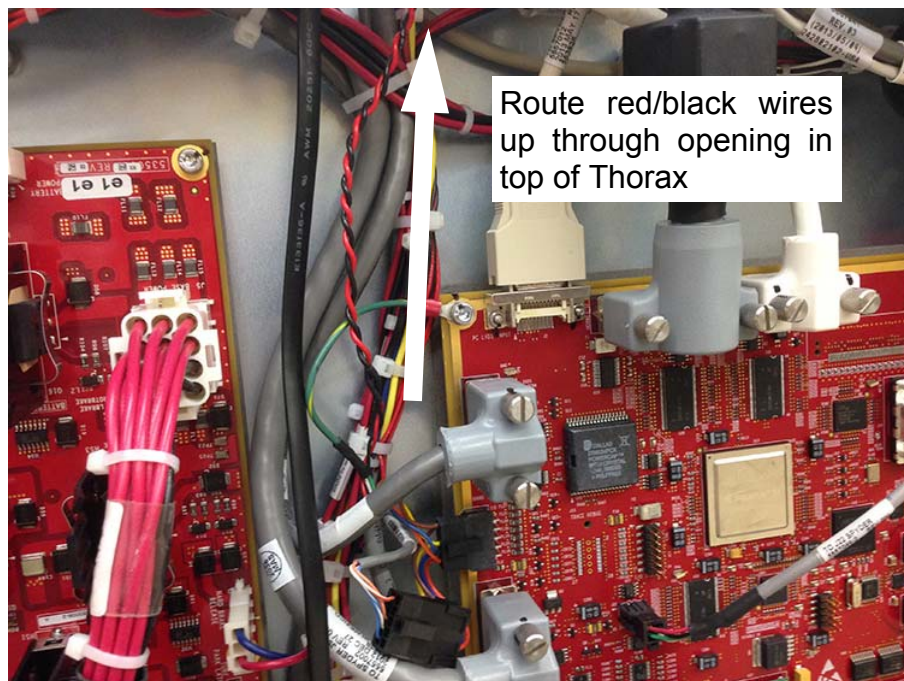
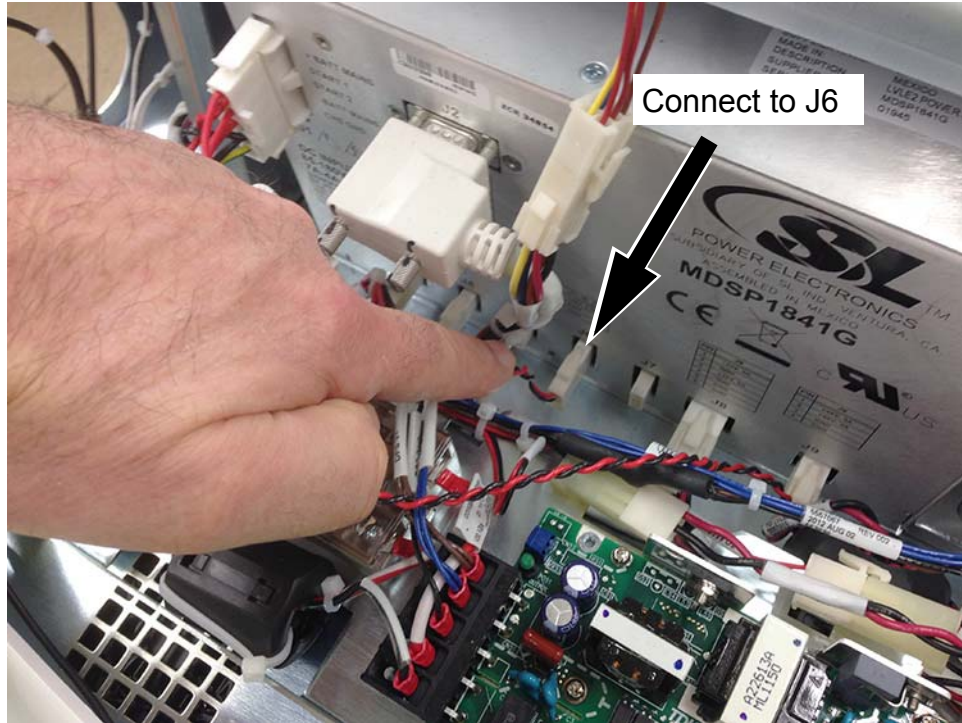

Figure 2-8 Route red/black wires
Figure 2-9 Connect cable to LVLE2 J6
8. Continue routing the main cable (twisted black and red wires) up through the Thorax (Figure 2-8) to the LVLE2 and plug End A of the main cable into J6 on the LVLE2 (Figure 2-9).